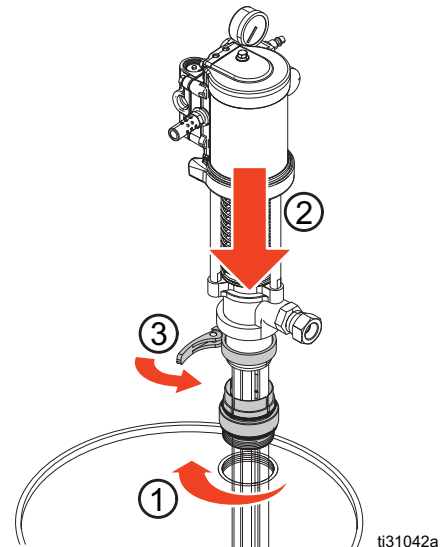

FIG. 8
4. Lubricate the bung adapter inside diameter and mounting threads. Ensure the gasket is in place and screw the bung adapter securely into the bunghole of the drum. Insert the pump through the adapter and lock it in place. See FIG. 8.